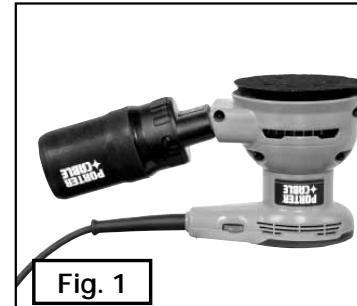

Fig. 1
1. Turn the sander over so that the sanding pad is facing upward (Fig. 1).